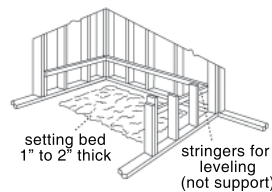

Figure 1
- Bathtub is not hanging from the rim. Bath must be supported from the floor (See Figure 1.)
- Prepare tub setting bed using lightweight cement, plaster, gypsum or fix-all bed approximately 1" or 2" thick (Figure 1).